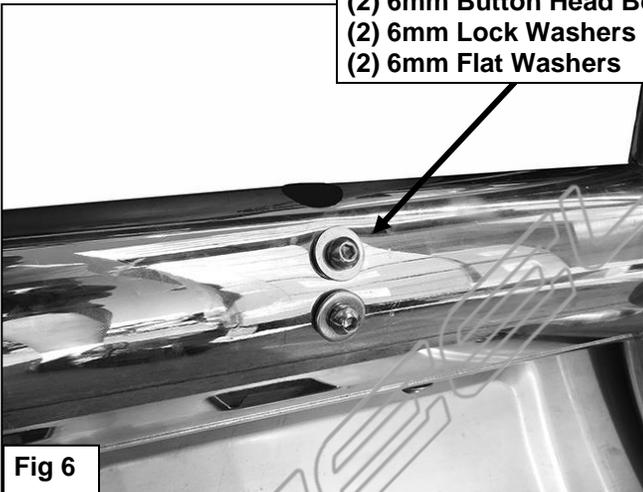

Fig 6
10. If not installing lights at this time, use the included (4) 6mm Button Head Bolts, (4) 6mm Lock Washers and (4) 6mm Flat Washers to plug the (4) threaded holes in the back of the cross bar, **(Figure 6)**.